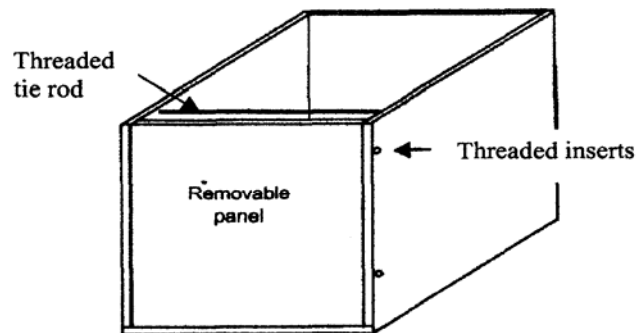

Figure 1. Schematic of plywood sandbox: front view.
4. The wall will be built inside an apparatus referred to as a **sandbox**. Each team will be provided with a sandbox at the competition. The sandbox has a bottom and three fixed, vertical sides. The fourth side, also vertical, is a removable panel that serves as the temporary form against which the reinforced wall is constructed. The box is made from standard $\frac{3}{4}$ inch "A-C" type plywood, with the "A"-side to the inside. The inside dimensions of the box are 18 inches wide, 18 inches high, and 26 inches long, with tolerances of +/- .one quarter inch. The inside surfaces are planar. The removable panel is flush with the front of the box. The removable panel is held in place with threaded inserts and wing bolts. When the panel is removed, the two fixed parallel sides of the box are held in place by a threaded tie rod located one inch below the top of the box and one inch back from the inside face of the removable panel. A conceptual sandbox is illustrated in Figure 1.